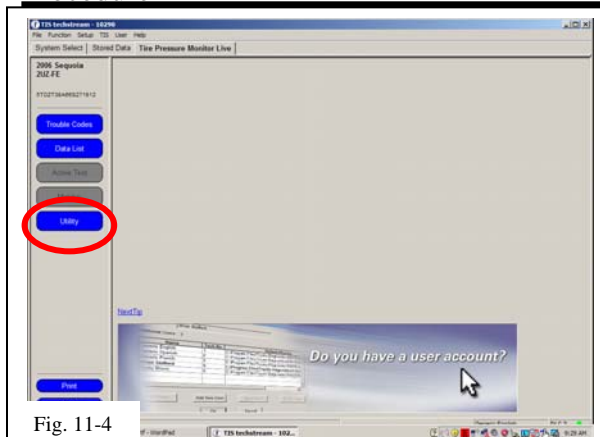

Fig. 11-4
- (g) Select “**UTILITY**” to begin input of new TPMS ID codes (Fig. 11-4).